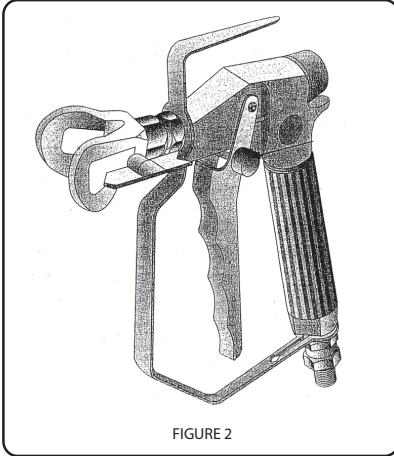

FIGURE 2
- 1 In order to engage the safety (block the opening in the trigger of the gun), move the trigger forward (locked position) and turn the lever (no. 1 - figure 2) until it butts against the gun body. Check that the trigger is locked.
- 2 In order to disengage the gun safety, push the trigger forward (closed position) and turn the lever (no. 1 - figure 2) until it butts against the trigger itself.